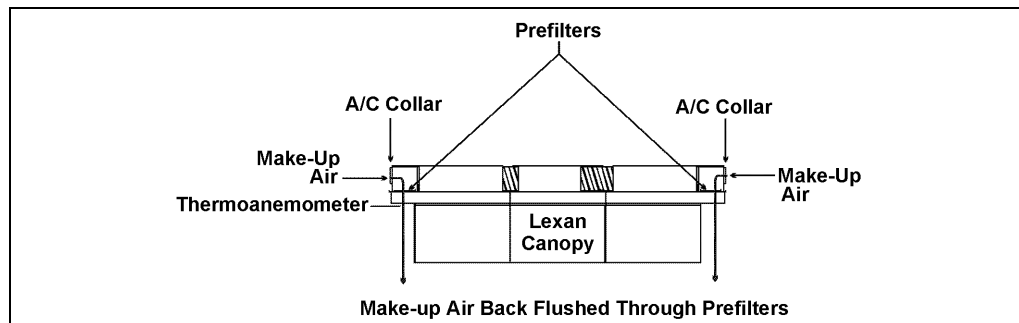

Figure 9: Incorrect VOR-12 Back Flush Condition
- G. Position a thermoanemometer directly below the light diffuser/intake grille. Confirm that conditioned air is flowing out of the light diffuser/air intake grille (Figure 9). This back flush condition must be avoided to prevent shedding of contaminants impregnated within the prefilter back into the surgery room.